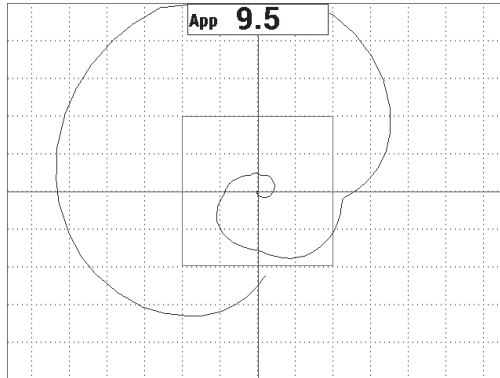

Figure 6-20 The full-screen display of the scan
5. Press the FULL NEXT key  to display the full screen, and then scan over defects again (see Figure 6-20 on page 144).